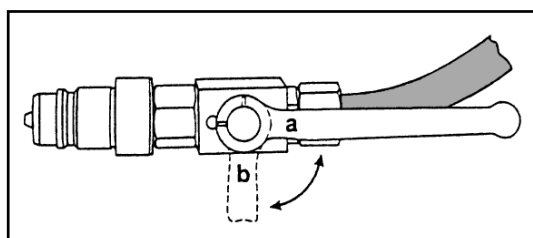

Figure 3-13
- Close the ball valve (figure 3-13)